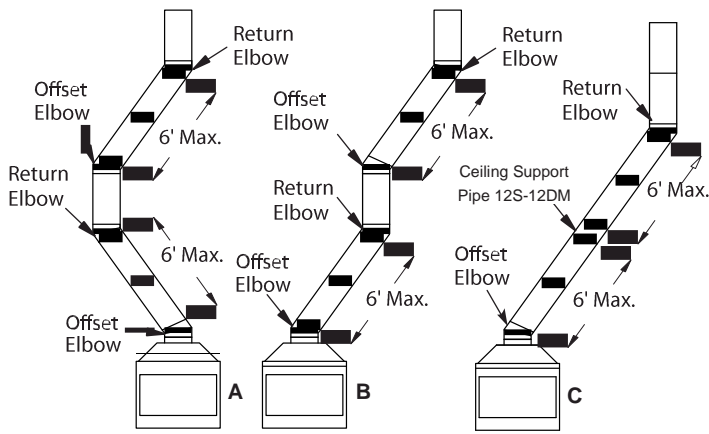

Figure 17 - Typical Offset Terminations
3. Maximum length of pipe between supports (return elbow or 12S-12DM) is 6' of angle run. Maximum of two 6' angle run sections per chimney system (see Figure 17, page 16).